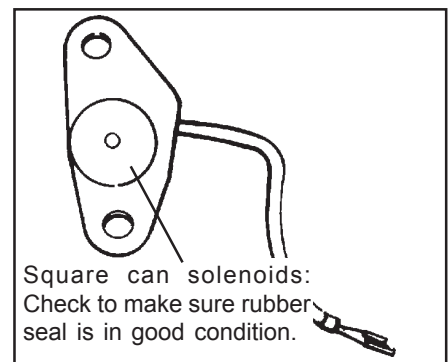

Figure 13
Square can solenoid: Make sure the rubber seal is in good condition and has no nicks or cuts (**See Fig. 13**). If the seal is damaged, you will have to replace the solenoid. If the seal leaks the transmission will be in passing gear all the time. Install the solenoid into position, **DO NOT** use the metal gasket supplied in the kit. Install the two (2) 1/4-20 bolts **FINGER TIGHT**. Remove the pan bolt you used to hold the plate and gasket in place.